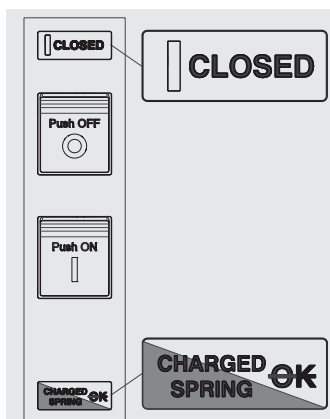

Figure 35
4. Circuit-breaker closed with springs charged and not ready to close (see Figure 35). This state occurs when after closing (see step 4 - Manual operations for opening and closing the circuit-breaker) the springs are reloaded manually or automatically by the gearmotor (if provided).